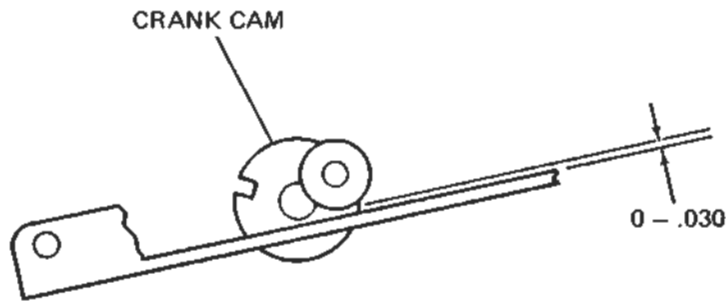

Figure 2-11A. Eject Motor Cam Alignment Check - Carrier Open
- d. Depress eject button on bezel and observe the crank cam rotate to a point where the bearing follower is just clear of impacting the carrier plane, i. e. , 0-.030". Once the carrier is open there must be no further contact between the bearing follower and carrier. (Figure 2-11A.)